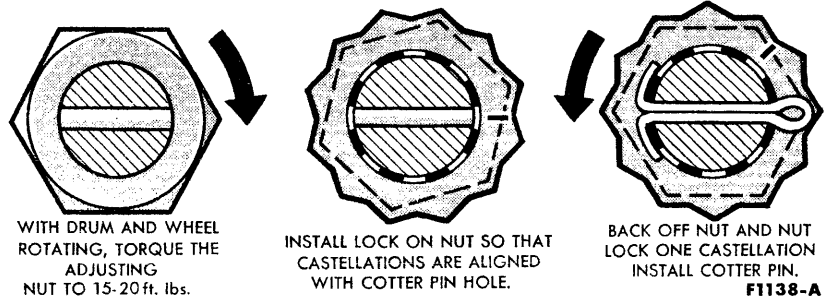

FIG. 2—Front Wheel Bearing Adjustment
4. While rotating the wheel, hub, and drum assembly, torque the adjusting nut to 15-20 ft-lbs to seat the bearings (Fig. 2).
around the castellated flange of the nut lock (Fig. 2).